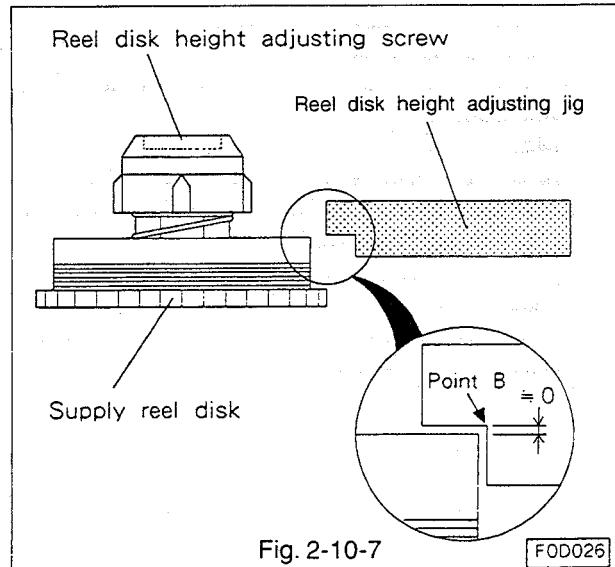

Fig. 2-10-7
K. Slowly turn the jig about point A and make sure that the height of the supply reel disk flange agrees with the point B on the supply disk adjusting side of the jig (marked SP).(Refer to Fig. 2-10-7.)